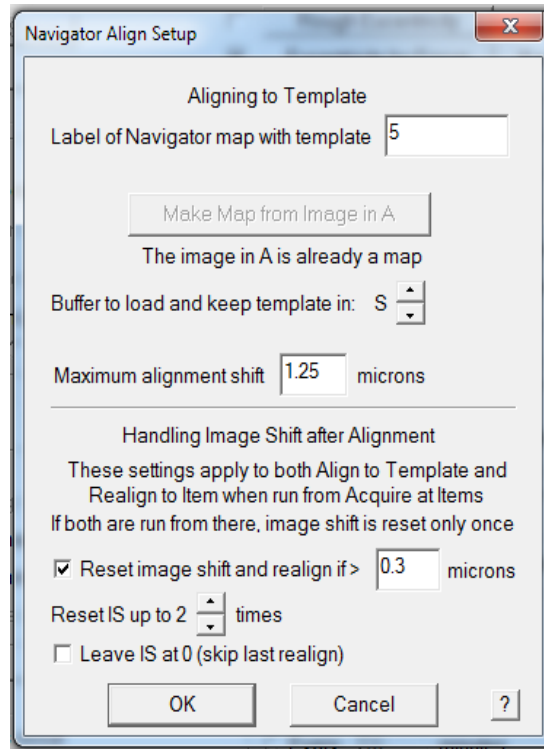

Figure 4: The Align to Template setup dialog.
- d. Enter the numerical label for the template from the Navigator into the box (Figure 4). Set the maximum alignment shift to half the periodicity of your grid and set the reset image shift to 0.3 microns to be conservative. Then click 'OK'.